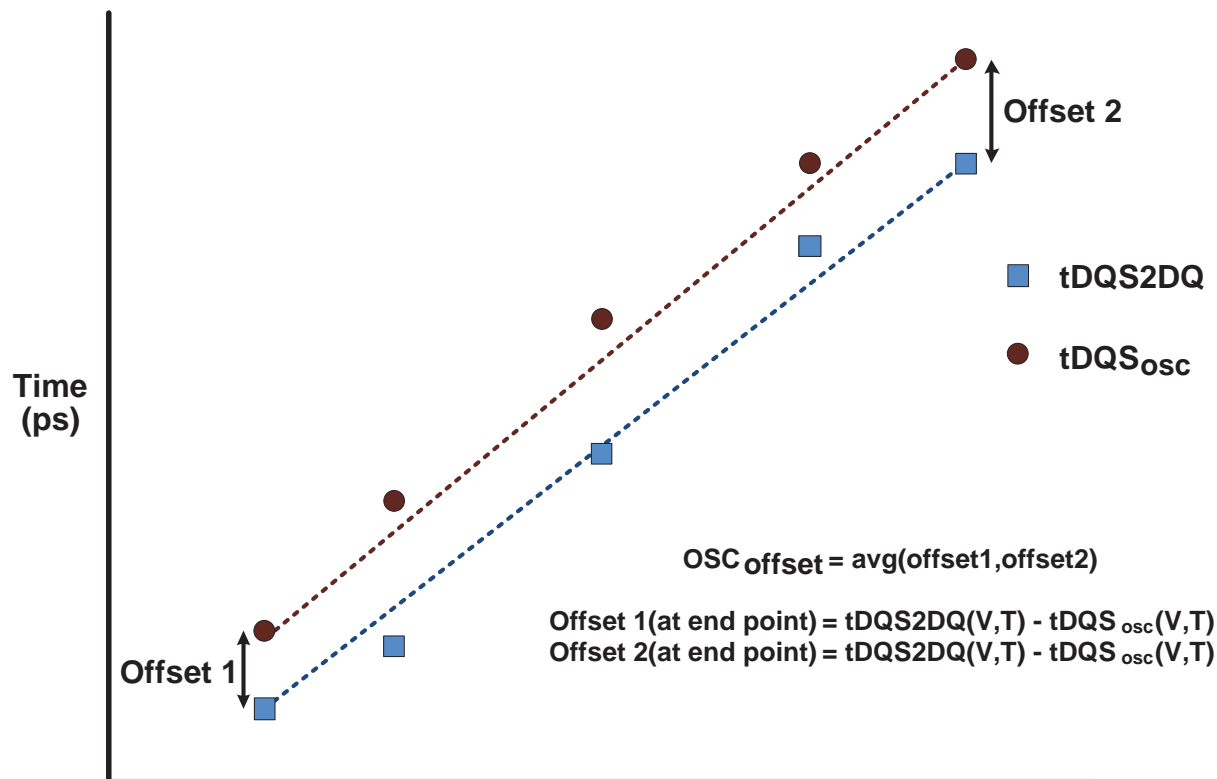

Figure 4.103 — Interval oscillator offset OSCOffset
- OSCOffset: Average delay difference over voltage and temp(shown in Figure 4.103)